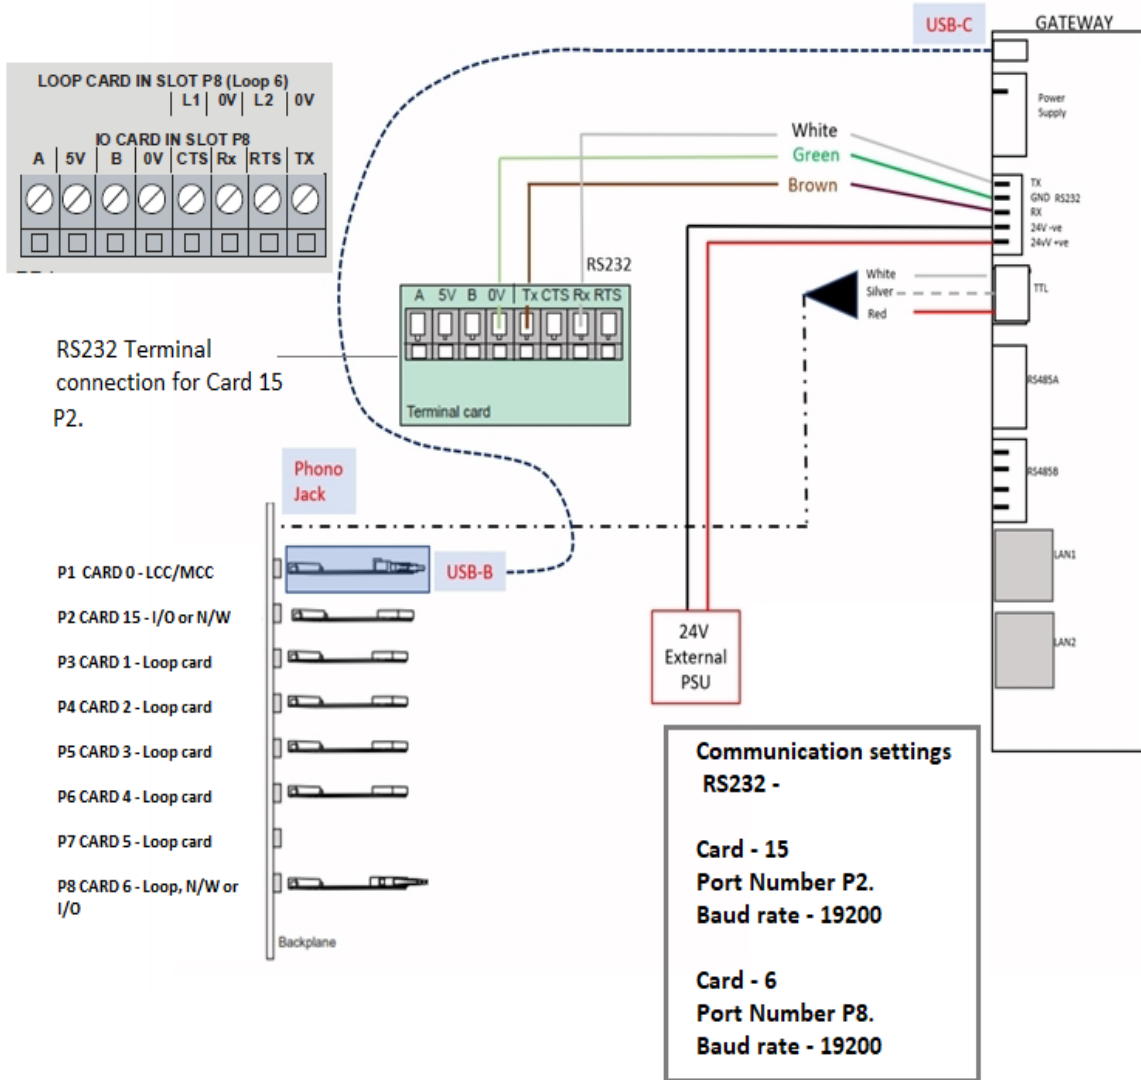

Figure C-25: Vigilon Panels: I/O Card Connection
- Connect the USB-B side of the cable. Refer to the figure Figure C-25: Vigilon Panels: I/O Card Connection .